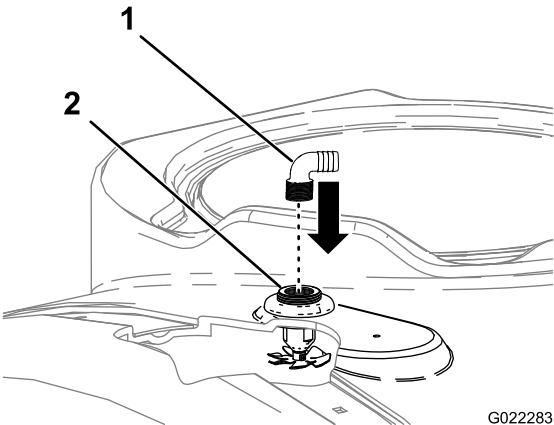

Figure 7
4. Install a 90° barbed fittings into the threaded openings in each of the rinse-nozzle-bulkhead fittings (Figure 7).